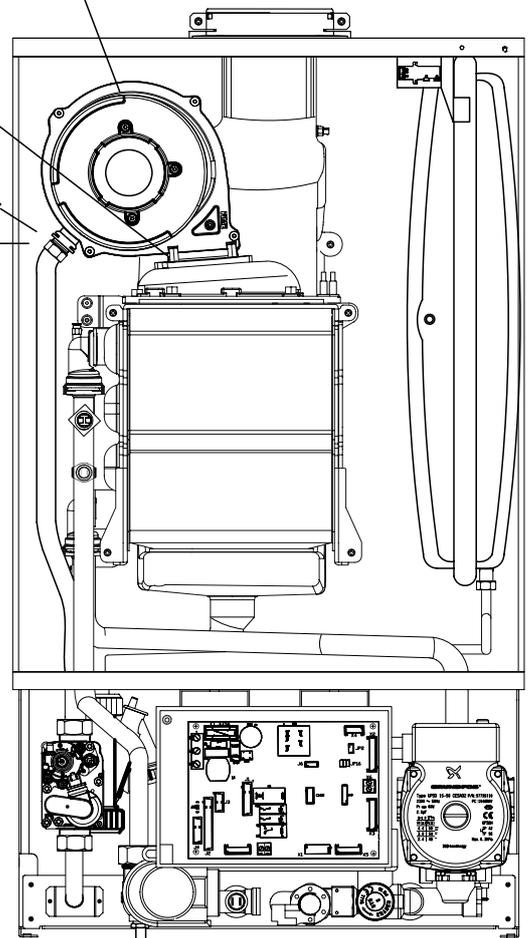

Fig.42
8.5 TO REMOVE/REPLACE FAN (Fig. 42)